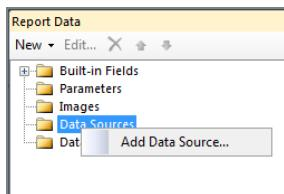

Figure 3-5
5. Now add the data source to the report from Shared Data Sources. Right-click the Data Sources folder in the Report Data window as shown in Figure 3-5 and select Add Data Source.